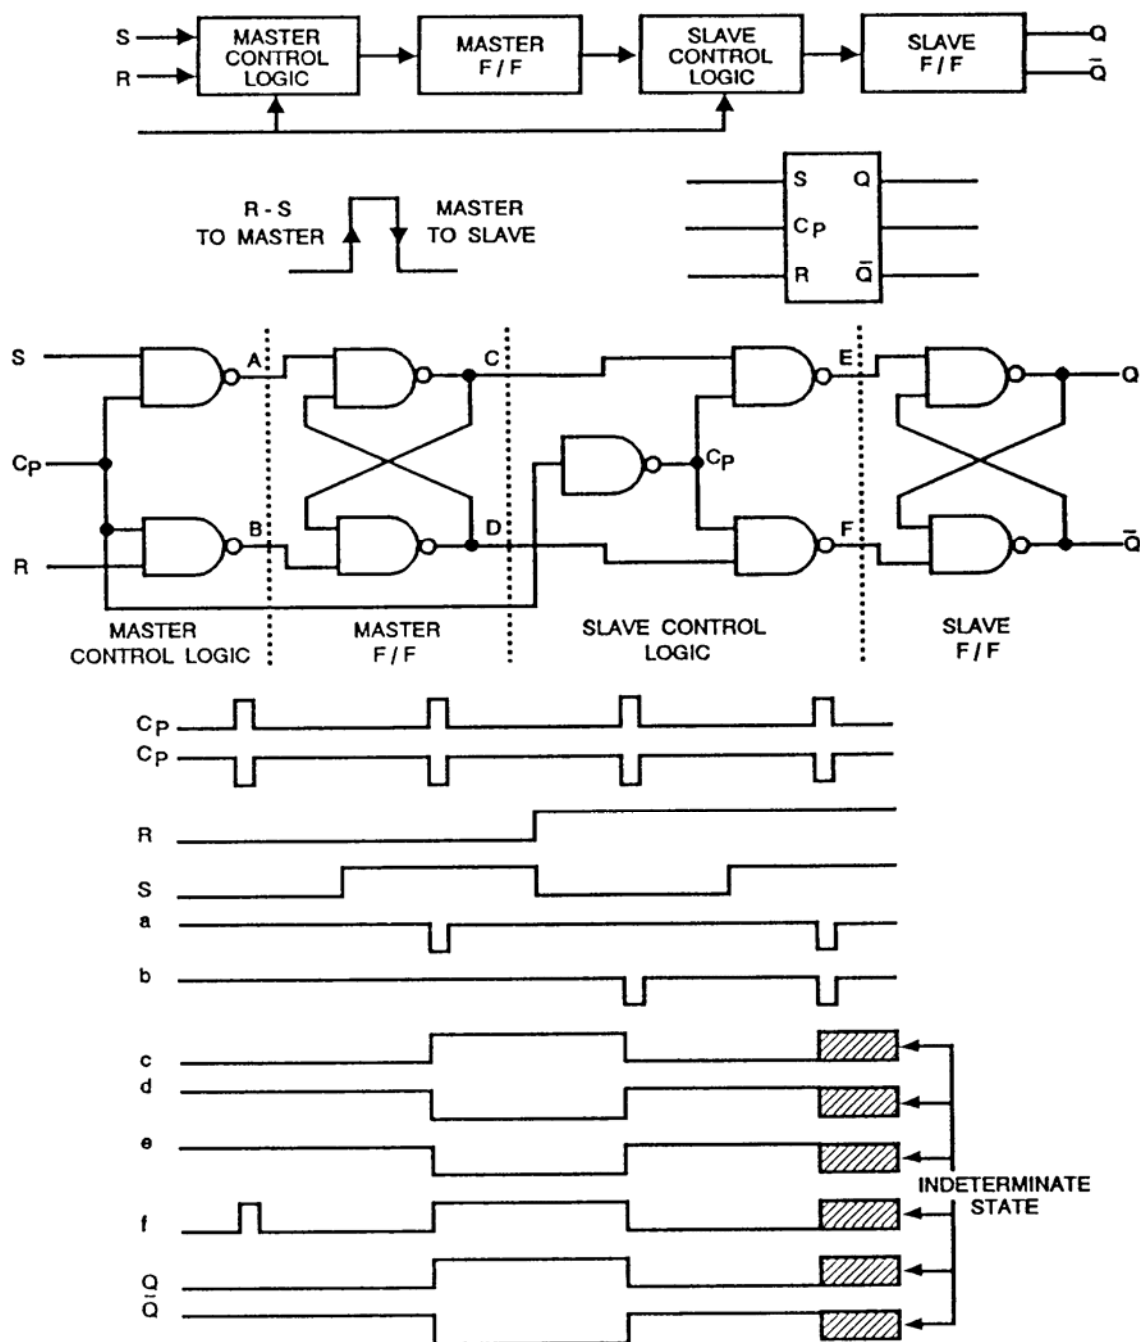

Figure Q-29. Master-Slave Flip-Flop
(1) This problem can be solved by use of external gating circuits but it is more convenient to use a master-slave principle that will cause the data to be stepped through the logic circuit.
(2) Figure Q-29 shows the basic idea of master-slave. Information at the R and S inputs is stored in the master flip-flop on the positive edge of the clock and then transferred to the slave FF on the